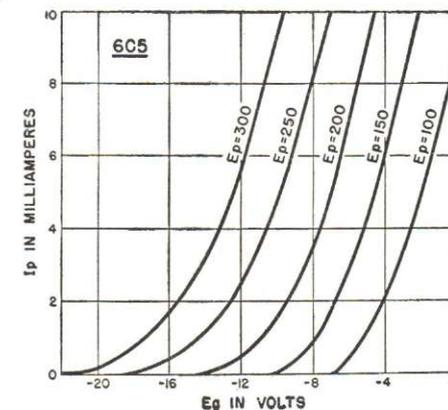
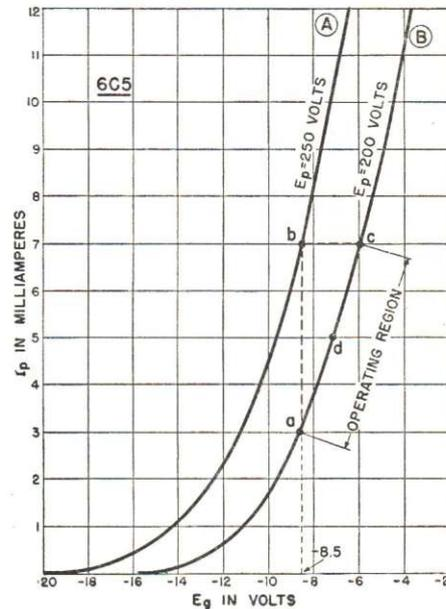

FIG. 9. A family of characteristic curves.
FIG. 10. Two of the curves taken from the family in Fig. 9.
This process is repeated for other values of plate voltage until a series or family of E_g-I_p characteristic curves is secured. They are similar to those shown in Fig. 9 (which are for a 6C5 tube).
Suppose we use Fig. 10, showing two curves taken from Fig. 9, to illustrate this. If the 6C5 tube is operating at point a on curve B (for a plate voltage of 200 volts), then a plate current increase of 4 ma. can be obtained by changing the grid voltage 2.5 volts (from -8.5 to -6 volts); this moves the operating point to c. Similarly, with the bias voltage fixed at -8.5 volts, a 4-ma. change can be obtained by increasing the plate voltage 50 volts, from a on curve B to b on curve A. (Curve A is for 250 volts, which is 50 volts higher than curve B.) We can thus get a certain change in plate current either by leaving the plate voltage fixed and changing the bias, or by leaving the bias fixed and changing the plate voltage. However, notice that the plate voltage change is far larger than the grid voltage change needed to give the same plate current change.
a.c. voltage and measuring the resulting change in plate current, or it can be found from the characteristic curves. For example, referring to Fig. 10, a plate voltage change of 50 volts (a to b) produces a plate current change of 4 ma. when the tube is biased at -8.5 volts. As we can consider the change to be equivalent to an a.c. variation, we need only use Ohm's Law to find the a.c. resistance. In this case, then, r_p is equal to $50 \div .004$, or 12,500 ohms. Notice—this value applies only
D.C. Plate Resistance. A radio tube is peculiar in that it offers a different plate-to-cathode resistance to a steady voltage than it does to a varying voltage. When only d.c. voltage is applied to the grid and the plate, a definite amount of d.c. plate current will flow. By dividing the d.c. plate voltage by the d.c. plate current (Ohm's Law), we get the d.c. plate resistance of the tube for that particular grid bias value. Thus, at point a in Fig. 10, the d.c. plate voltage is 200 volts and the d.c. current is 3 ma., so the d.c. resistance is $200 \div .003$, which is about 66,000 ohms. (This is for the chosen value of grid bias only—since changing the grid bias changes the plate current and therefore changes the d.c. plate resistance, the bias must always be specified when a value of d.c. plate resistance is given.) This is quite different from the a.c. resistance.
► Values of mutual conductance are given on tube charts. They can also be obtained from the E_g-I_p curves. In Fig. 10, a grid voltage change of 2.5 volts (from a to c) produces a plate current change of .004 ampere. Since a change corresponds to an a.c. value, the mutual conductance of the 6C5 tube (for operating point d in the middle of the operating region of curve B) will be $.004 \div 2.5$ or .0016 mhos. This is the same as 1600 micromhos.